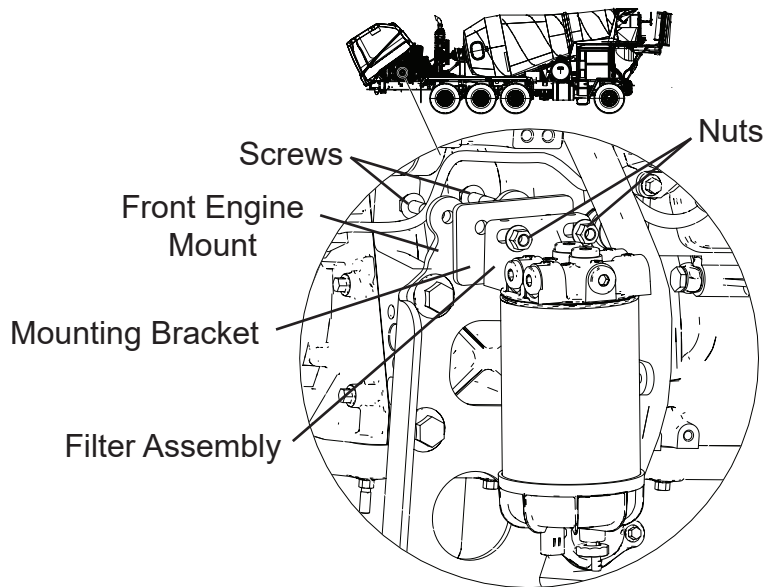

Figure 3
9. Install new fuel filter assembly (A000A188) and mounting bracket (A000V991) to front engine mount with 0.38-16 x 1.75 inch screws (A000A534) and 0.38-16 flanged lock nuts (A000A690), see Figure 3. Final tighten mounting hardware to 33 ft. lbs.